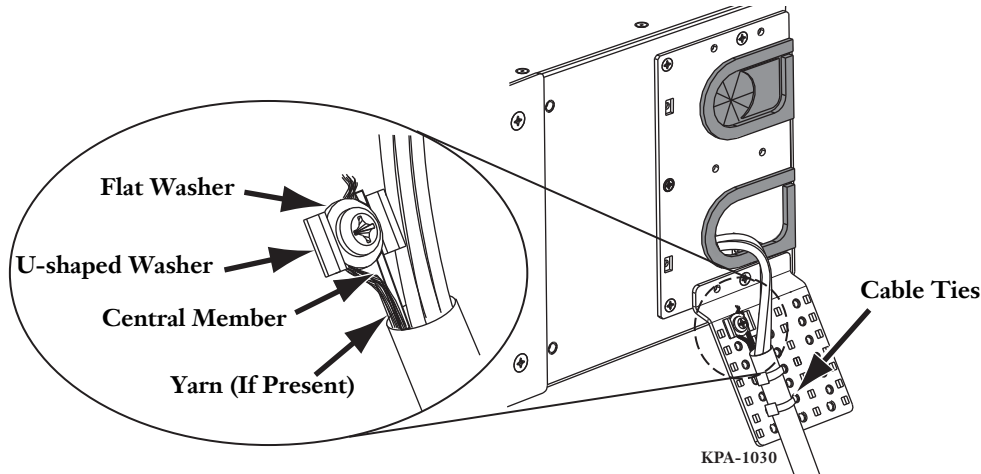

Figure 8 — Strain-relieve Central Member
**Step 1:** Attach the cable tie to the strain-relief bracket in two places with cable ties as shown in Figure 8.
**Step 1:** Install the U-shaped washer and the flat washer on the strain-relief bracket in the orientation shown using the supplied Phillips-head machine screw (Figure 8).